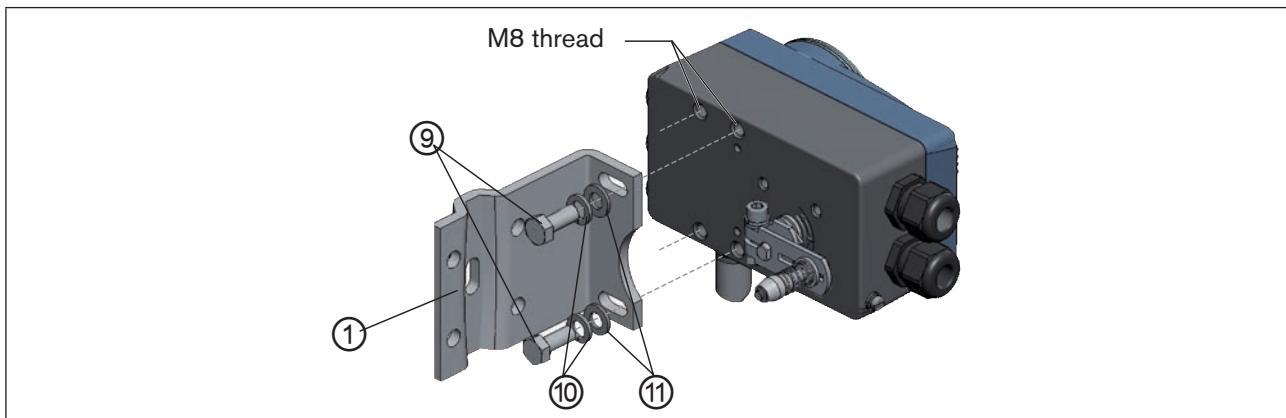

Figure 24: Attaching mounting bracket
→ Attach mounting bracket ① to the back of the positioner with hexagon bolts ⑨, circlip ⑩ and washers ⑪ (see "Figure 24").